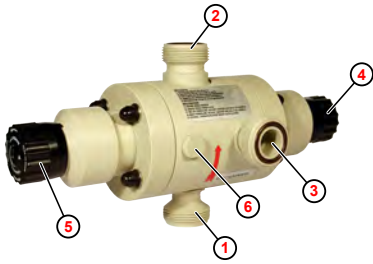

Fig. 1: Structure of the MFV III-IV, model 4, 5
The same steps described here apply to all connections (input, output and bypass). (Fig. 1 ①, ②, ③).